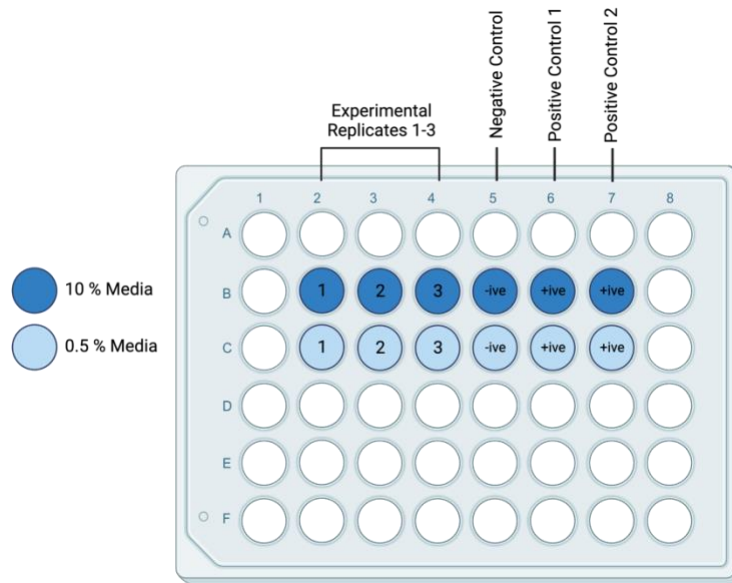

Figure 4-2 Example 48-well plate experimental layout
*The density of cells in your final solution will vary from experiment to experiment and depends on the purpose of the experiment. For the purposes of this lab, we will be doing a Live/Dead assay. Today you will be plating your cells to be used in those experiments later next week. Let's plan on plating ~2,000 cells per well of a 48-well plate to get something like Figure 4-2.*
- 1.19. Pipette 300  $\mu$ L from your new cell solutions into each well of a new sterile 48 well plate according to your experiment setup (similar to Figure 4-2). You may have some extra cell solution leftover, so you can pipet extra wells as back-up.